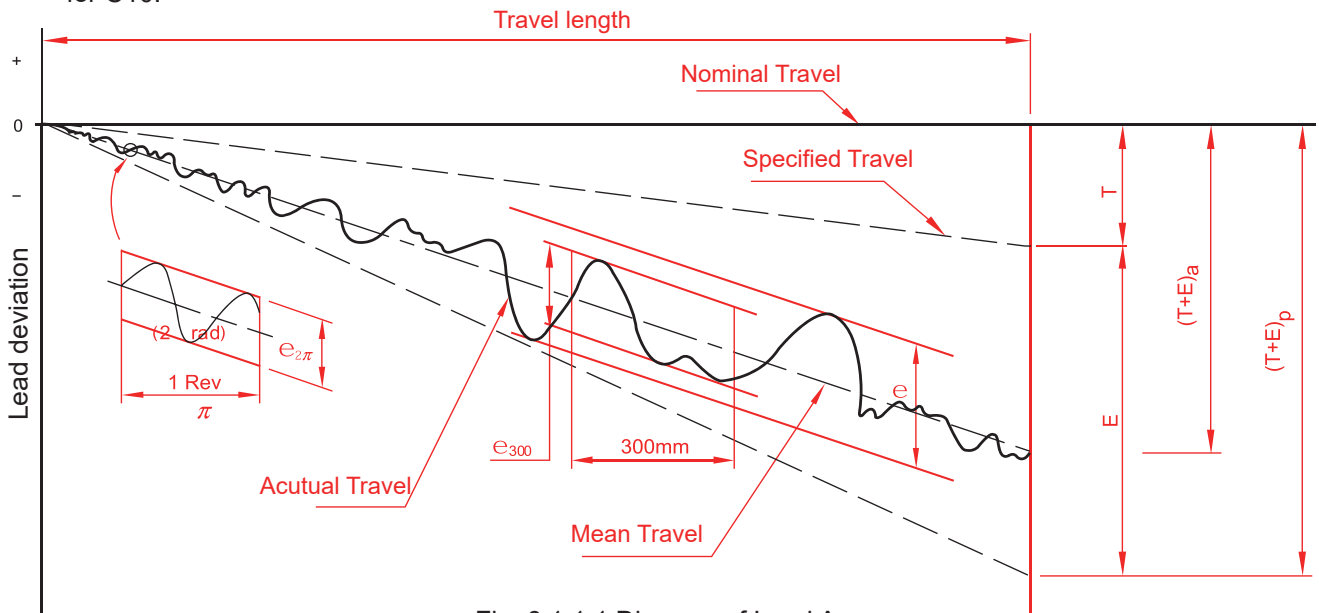

Fig. 6.1.1.1 Diagram of Lead Accuracy
- Lead accuracy of ABBA Ball screws (grade C0~C5) is specified in 4 basic terms (E , e , e_{300} , $e_{2\pi}$). There are defined in Fig.6.1.1.1 Tolerance of deviation ($\pm E$) and variation (e) of accumulated reference travel are shown in Table 6.1.1.1~ 6.1.1.3